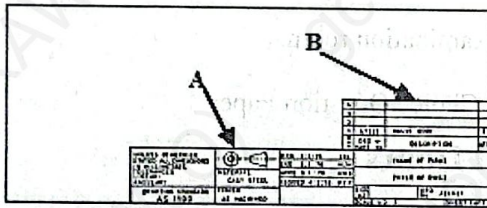

Figure 1
3. Identify the portion labeled **B** on the drawing paper layout in Figure 1 below.